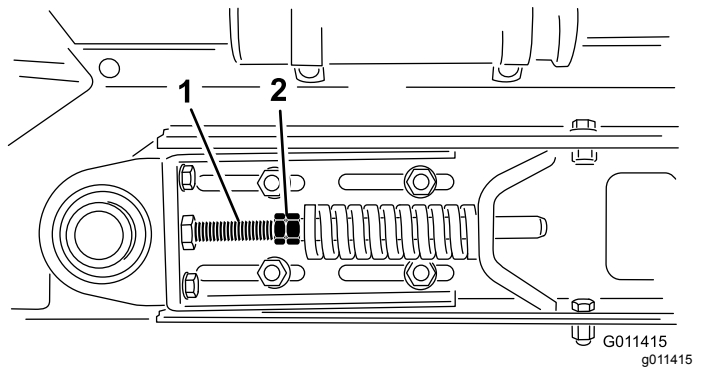

Figure 31
3. Loosen the jam nuts and the nuts on the tension rod to release the spring tension (Figure 31).